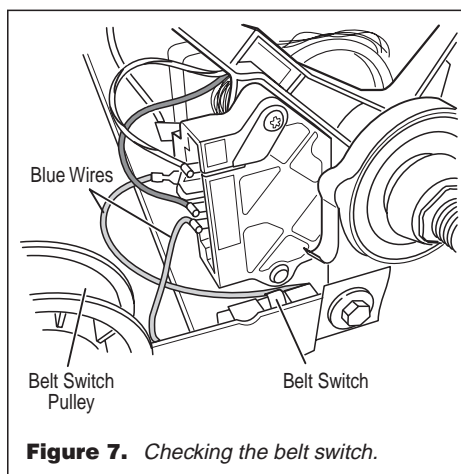

Figure 7. Checking the belt switch.
8. Check the belt switch by measuring resistance between the two blue wires, as shown in figure 7, while pushing up the belt switch pulley.